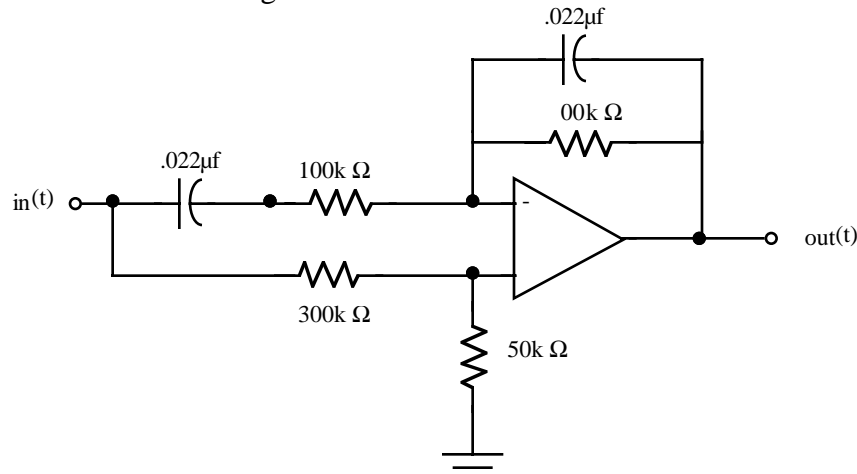

Figure 11. Wein Bridge notch filter.
- Build the circuit shown in Figure 11.